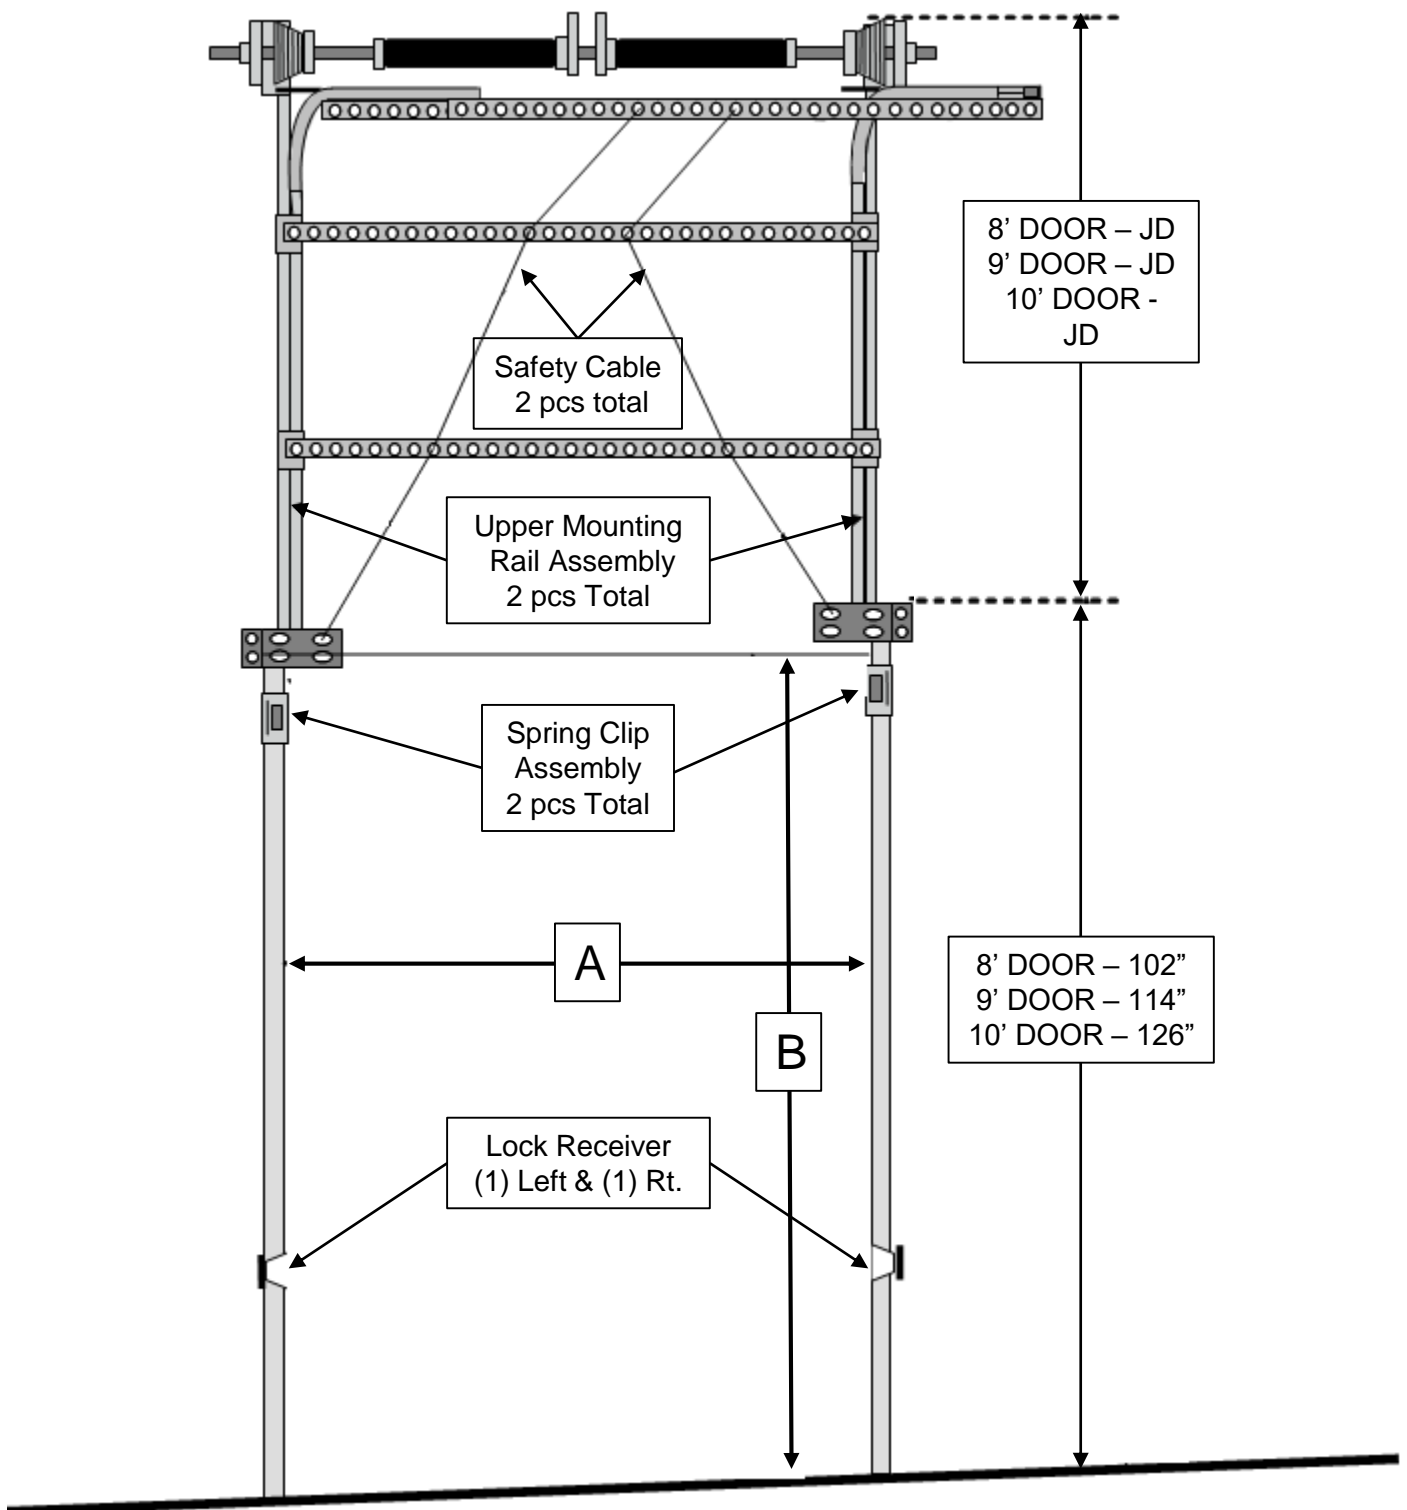

Figure 1 Key Measurements and Locations of Mounting Rails and Bearing Assemblies
3. Verify the minimum clearance to the sides and above the door. **(SEE FIGURE 1 ON PAGE 4.)**